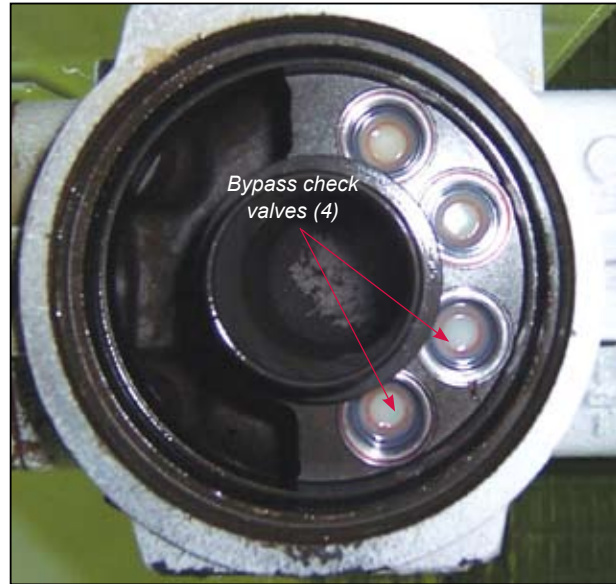

Fig. 4-12 Compressor Fluid Filter
NOTE: When filter element is changed, it is important to check that all four (4) Bypass check valves are in place. (refer fig 4-12). This is done by looking up into the Filter head from the underneath side once the filter bowl and element have been removed. Inspect/check all four (4) by-pass valves in housing for cracks, chips or damage. There must be a by-pass check in all four (4) ports, if missing and the port is open then there will be no filtration occurring of the compressor fluid. Replacement valve part number V0125559.